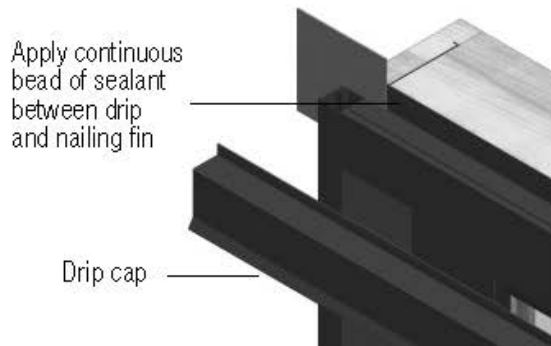

FIG. 15
- A) Apply a 1/4" continuous bead of 100% silicone sealant to the top of each joint where the jambs meet the head.(Fig. 15)